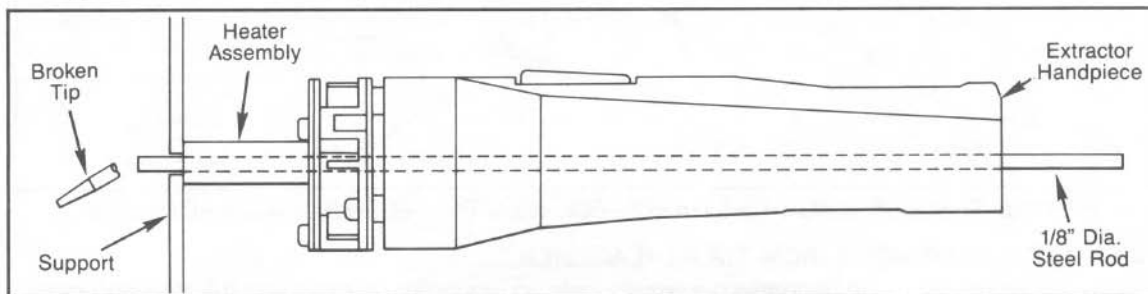

FIGURE 9. REPLACEMENT OF JAMMED OR BROKEN EXTRACTOR TIPS
When replacement of Tip becomes necessary (refer to Figure 9), proceed with the following steps:
- while holding Extractor, insert a steel rod (slightly less than $\frac{1}{8}$ " diameter) into rear of Handpiece through the Heater Assembly to ram broken Tip from Heater Tube (refer to Figure 9). (**NOTE:** The Heater should be "HOT" for ease of removal).